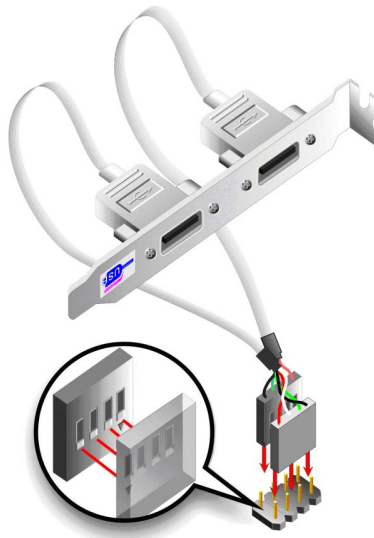

Figure 5-15: Dual USB Cable Connection
Step 3: Insert the cable connectors. Once the cable connectors are properly aligned with the USB connectors on the 2807940, connect the cable connectors to the onboard connectors. See **Figure 5-15**.